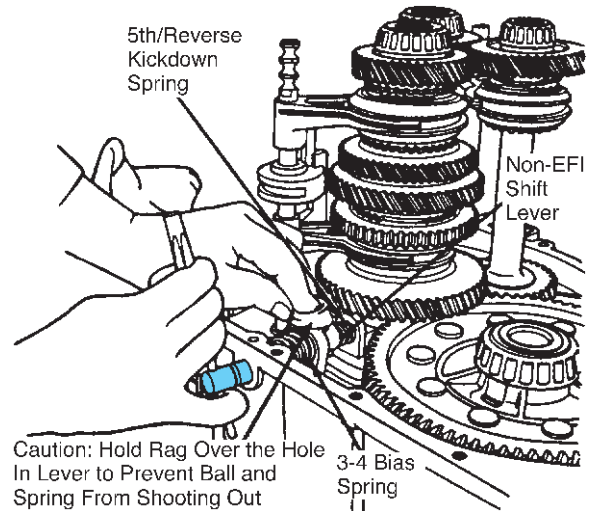

FIGURE 8-21 With some transaxles, the internal shift linkage is removed after the case cover has been removed. (Courtesy of Ford Motor Company)
5. After removing the cover, remove the shift mechanism, the reverse idler gear, and its shaft, if necessary (Figure 8-21).